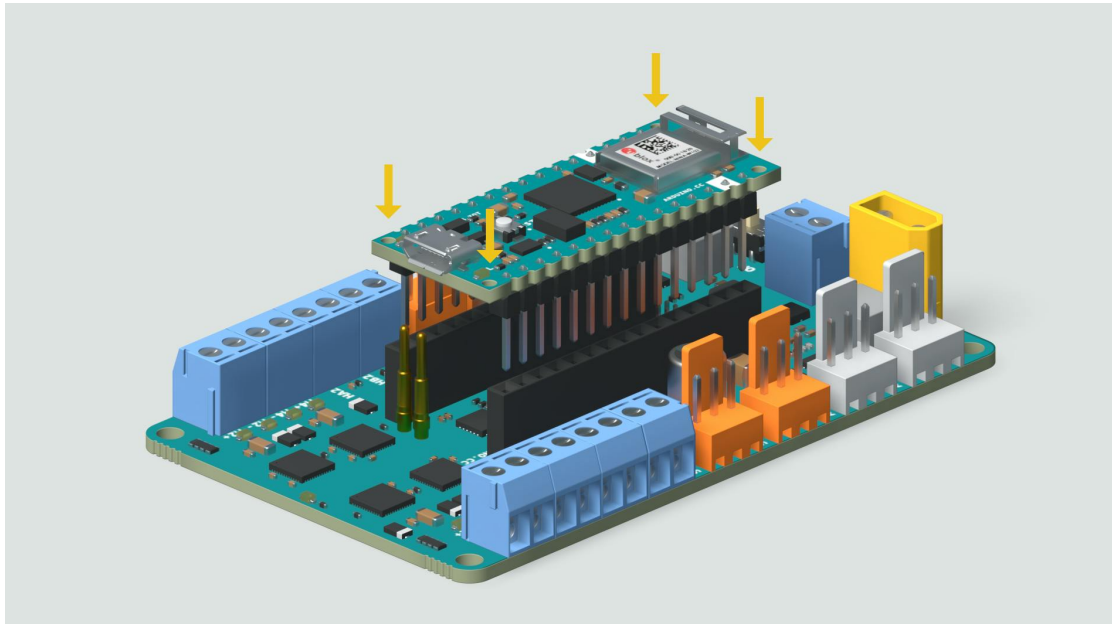

Figure 4. Connect the Arduino board correctly to the motor carrier.
11. Connect the Arduino board correctly to the motor carrier as in Figure 4. Following